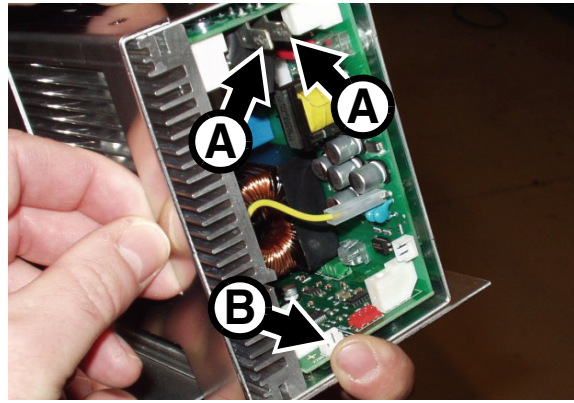

Figure 7
- See Figure 7. Loosen the Allen screws (P/N 08111210) **C** in the bottom corners of the base panels on the main PCB side of the fixture and swing the main PCB side base cover **A** open.
42. Reinstall the base side covers shown in Figure 7 on page 6. A new base cover A (P/N 55205504) for the main PCB side of the base and a new base cover B (P/N 55205505) for the ballast side of the base are supplied in the Upgrade Kit. Fasten the new covers’ ground leads to the base as shown in Figure 2 on page 5 and fasten the covers to the base re-using the original eight PZ2 screws (P/N 08070502).